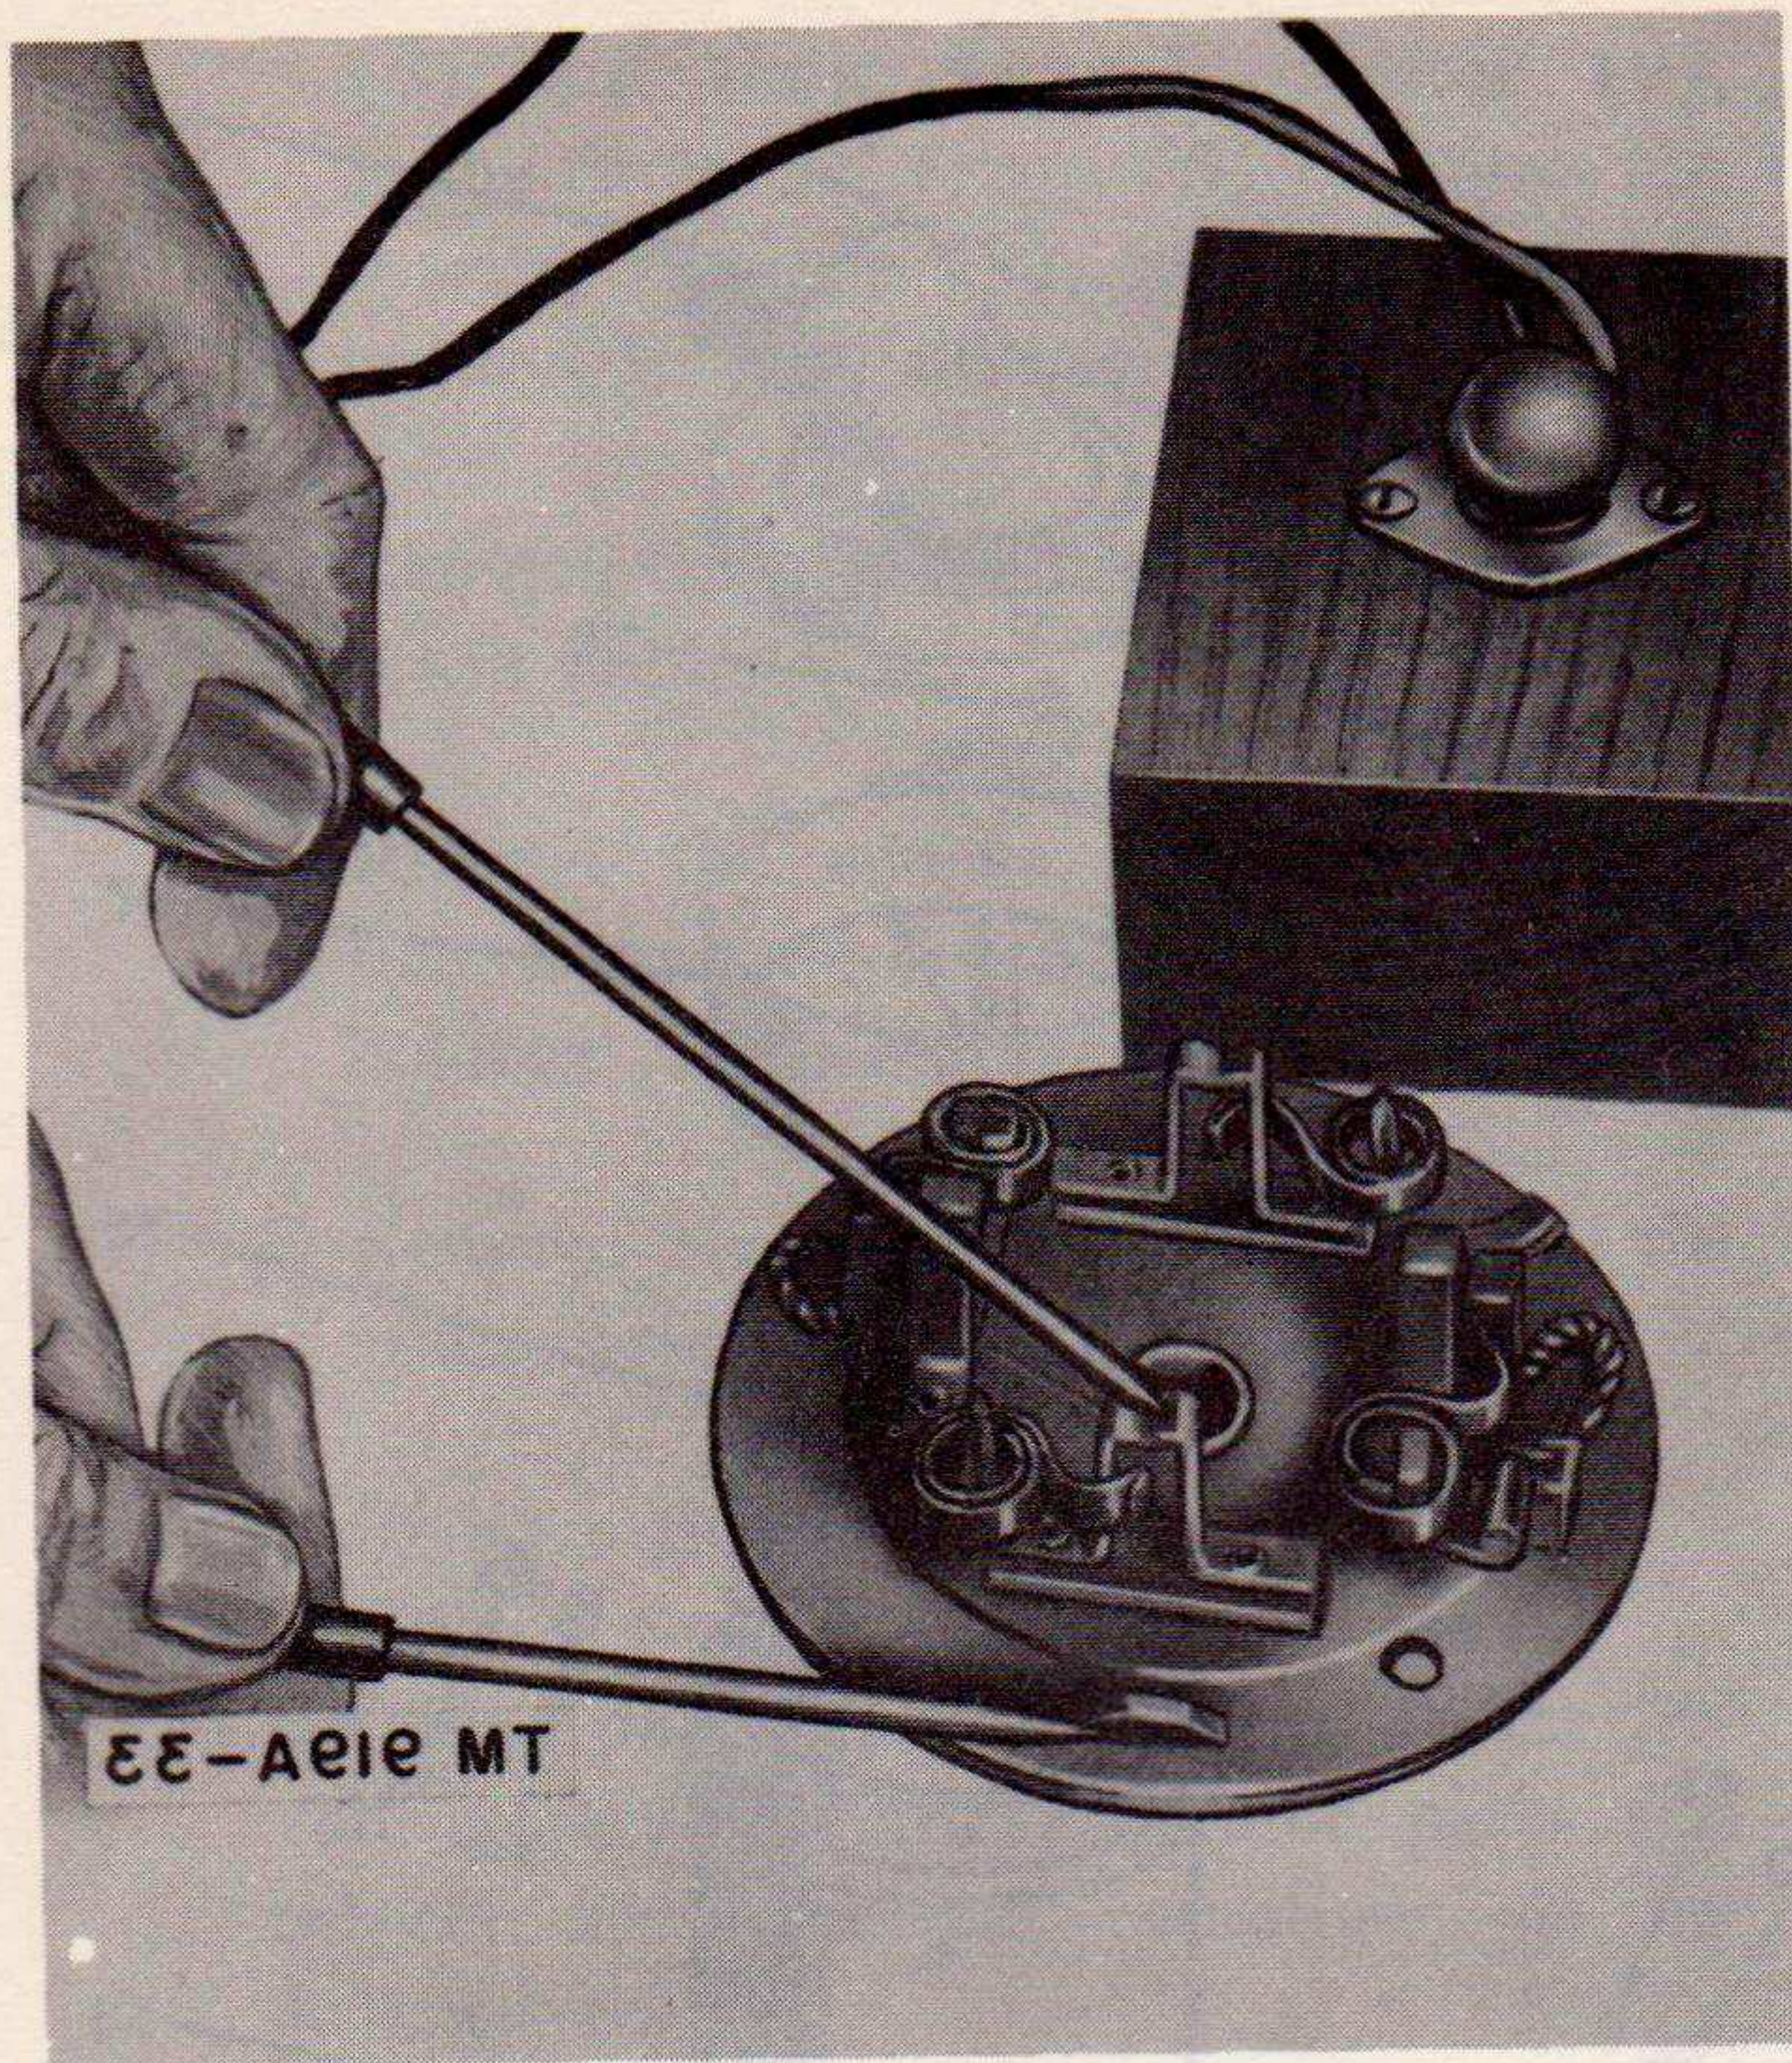

Figure 33. Testing brush holder for ground (starting motor).
4. Using test probes, touch each brush holder with one probe, and a convenient ground on the commutator end plate with the other probe, as shown in figure 33. If the lamp lights, a ground is indicated and the brush holder must be replaced.